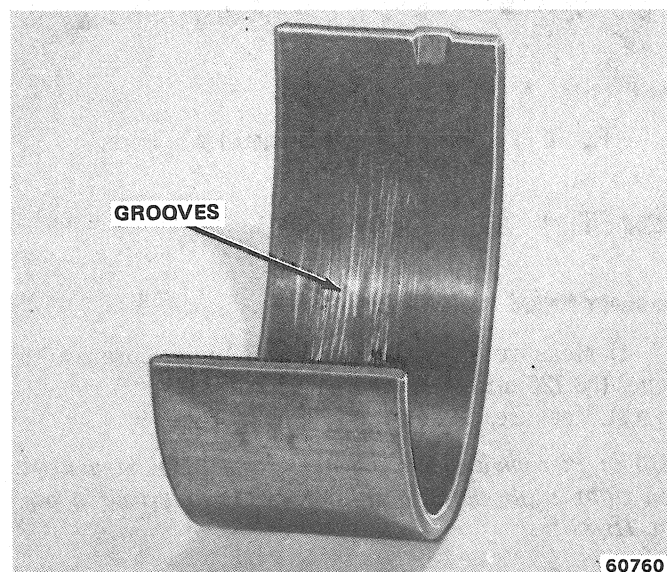

Fig. 1B-79 Scoring Caused by Imbedded Material
(5) Inspect insert in area of locking tab. Abnormal wear indicates bent tabs or improper installation of inserts (fig. 1B-80).
(6) Replace bearing inserts that are damaged or worn.